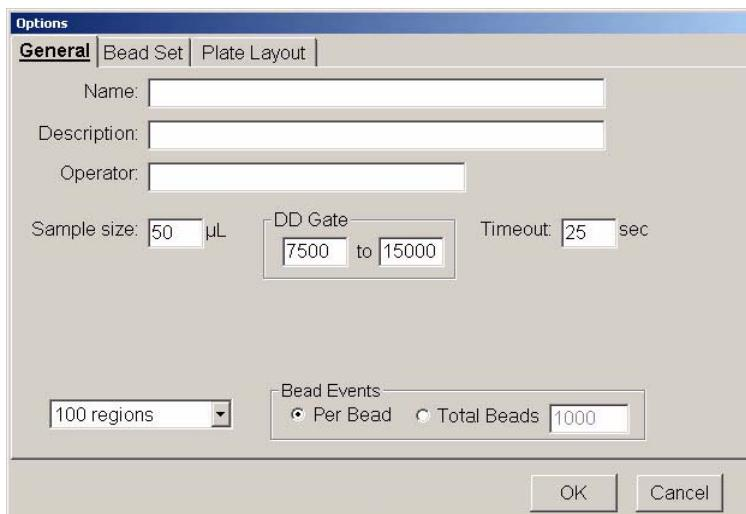

Figure 5-35. Options Dialog Box—General Tab
2. On the Acquisition Detail toolbar, click **New Advanced Batch**. The **Options Dialog Box** opens with the **General** tab displayed. See Figure 5-35.